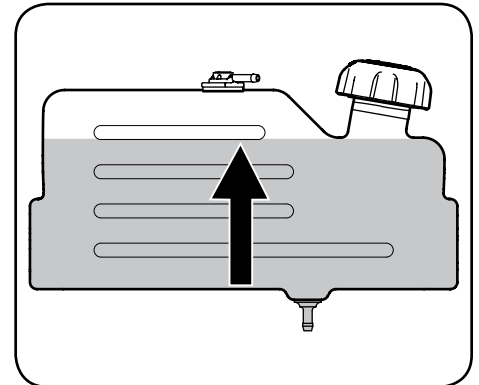

Figure 2-9
- Fill the fuel tank with gasoline. Use only clean, fresh (no more than 30 days old), unleaded gasoline. Fill tank to the base of the filler neck to allow space for fuel expansion. **DO NOT TOP OFF THE TANK WITH FUEL.** See Figure 2-9.